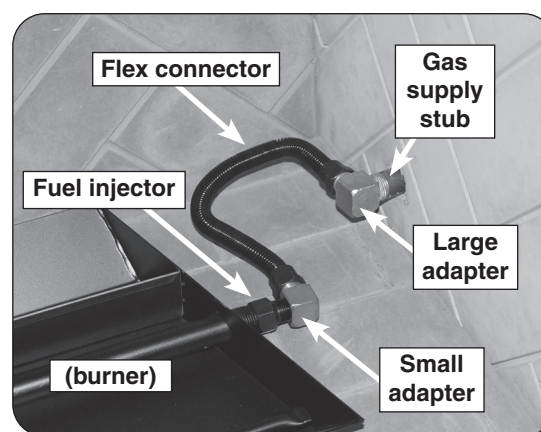

Fig. 10-2 Connect gas supply
3. Locate the gas-supply stub inside the fireplace and remove the cap, if attached (reference Fig. 10-2).
4. Remove the small adapter connected to the flex connector (included). Attach the adapter to the fuel injector found on the side of the burner pan using a pipe compound resistant to all gasses. Tighten securely. Then attach the flex connector to the adapter. Tighten securely (See Fig. 10-2).
6. **Be sure gas to the fireplace is off.** Remove the large adapter connected to the flex connector. Attach the adapter to the gas-supply stub using a pipe compound resistant to all gasses. Tighten securely. Then attach the flex connector to the adapter. Tighten securely (See Fig. 10-2).